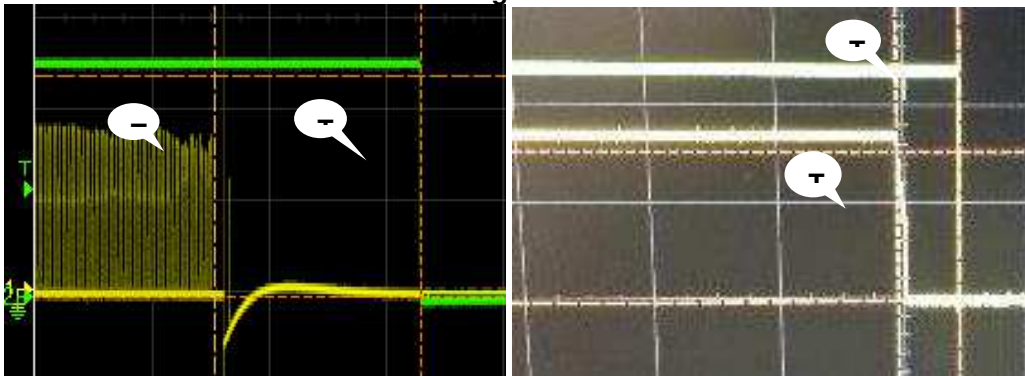

Figure.2
- Economizer type : T4~T5 at figure.2
- Non Economizer type : T6~T7 at figure.2